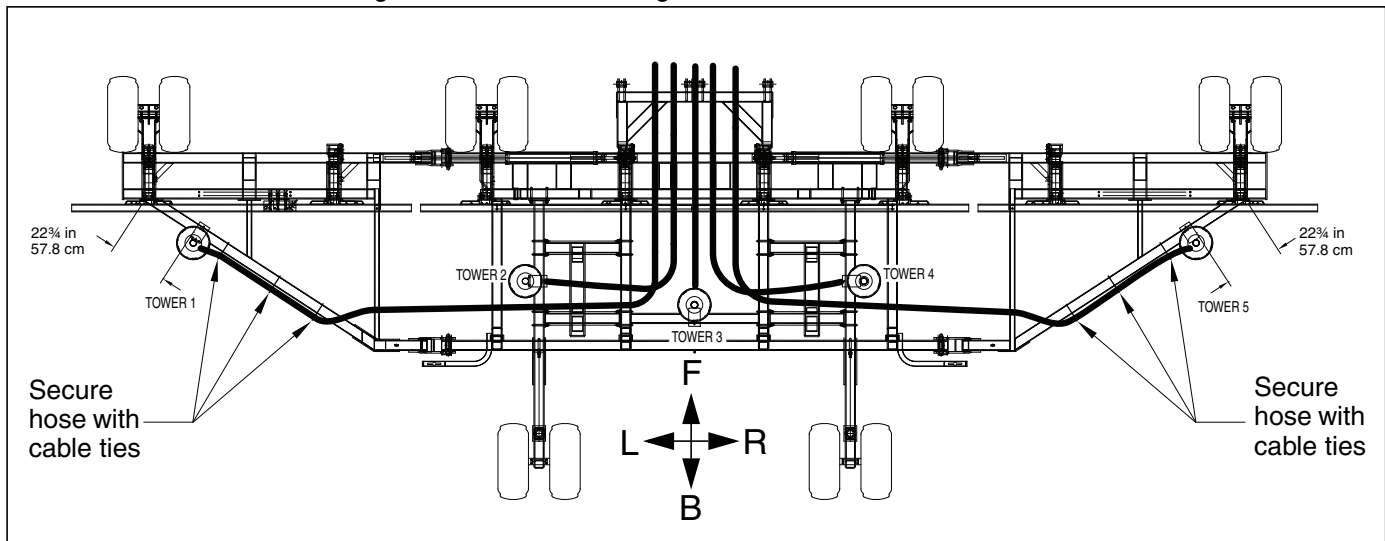

Figure 9
Refer to Figure 9
15. Re-route the hose along the rear outside of the wing as shown in Figure 9.